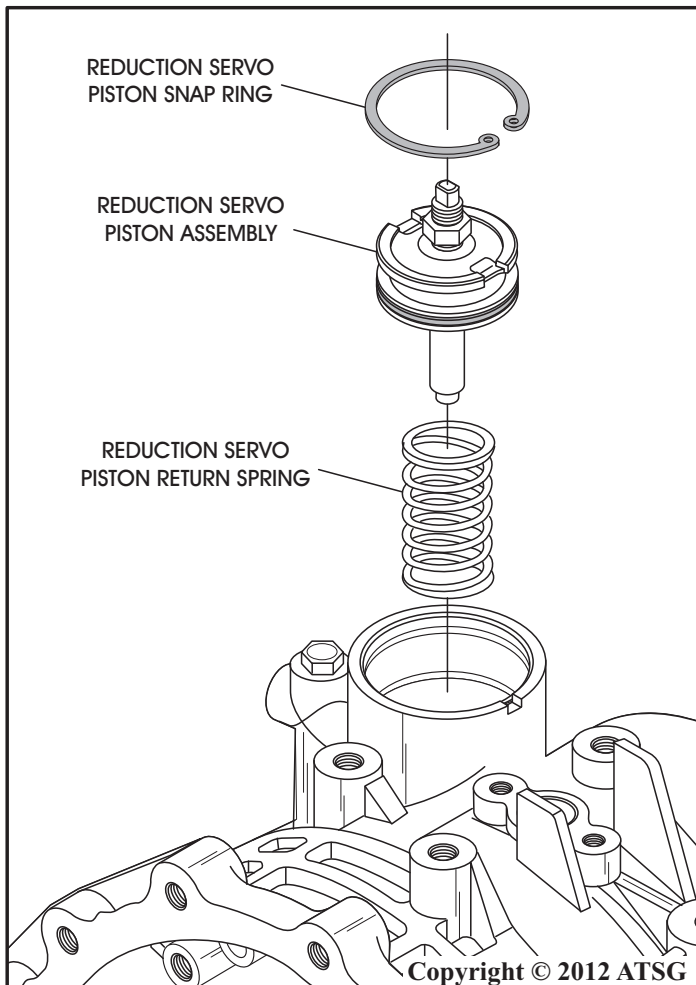

Figure 286
90. Install the reduction servo piston return spring into case, as shown in Figure 286.
91. Install pre-assembled reduction servo piston and seal assembly, as shown in Figure 286 and 287, compress the spring and install snap ring, with flat side facing down.